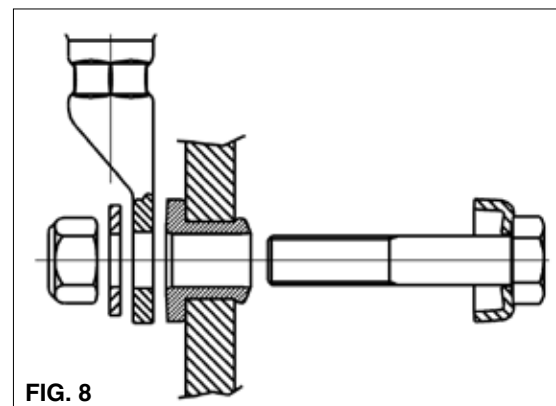

FIG. 8
3. CONDUCTOR ASSEMBLY (Ref. to Figs. 8 and 9)
3.1) Insert the special bolt (with recessed head) through the copper bush. The screw thread should protrude from the flange side of the bush; the recessed bolt head will tighten onto the web of the rail and not onto the bush (Fig. 8).